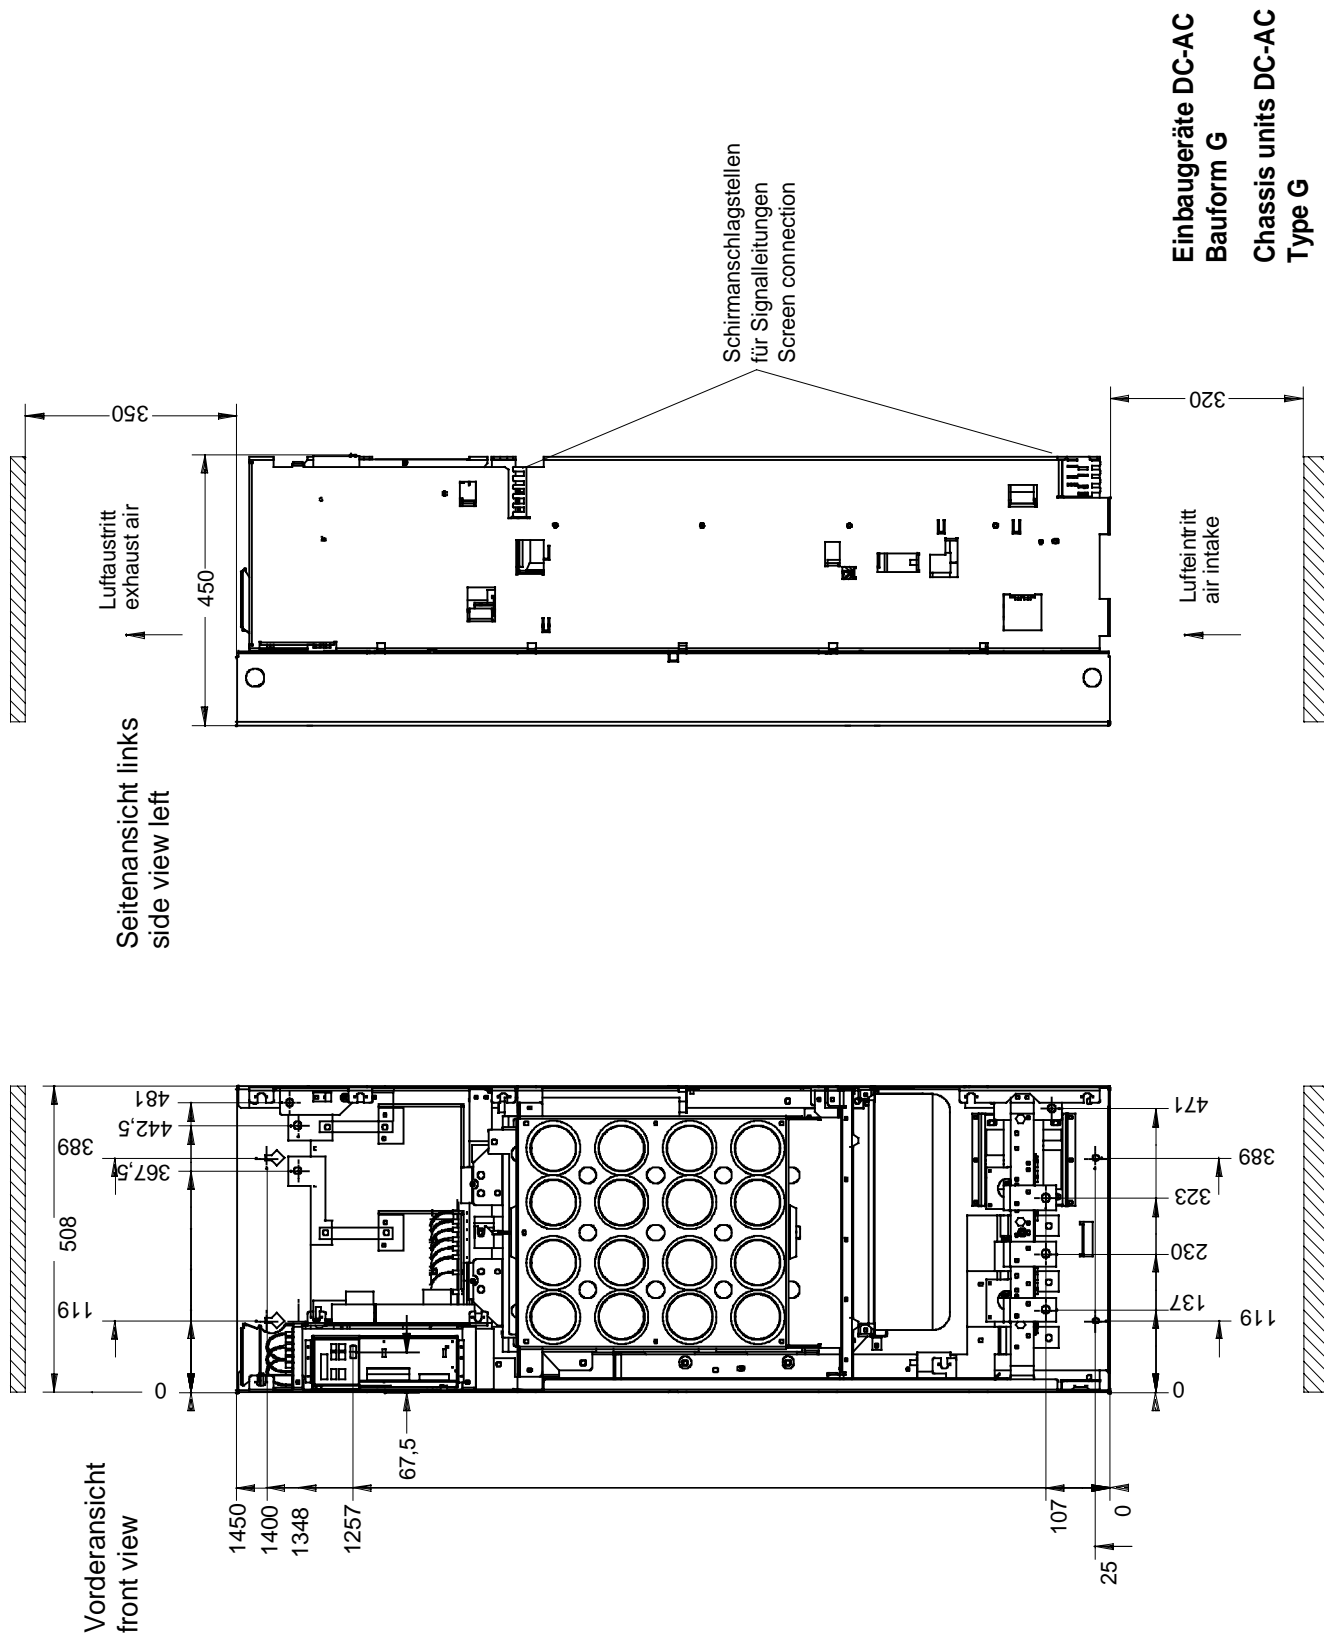

Fig. 2.3 Type G
- ♦ Dimension drawings: Fig. 2.2 for types of construction E, F, Fig. 2.3 for types of construction G and Fig. 2.4 for type of construction H.